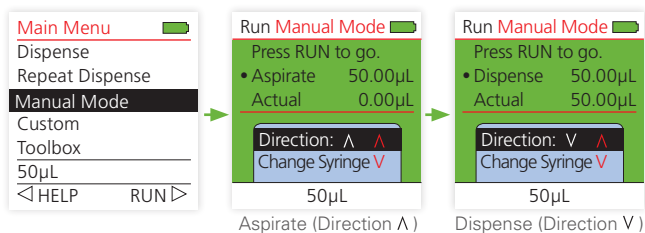

Figure 24. Manual Mode Syringe Plunger Direction.
**Direction:** Change the direction of the syringe plunger movement by selecting the Direction option in the Quick Access Menu and pressing OK. The notation on the display changes between  $\Lambda$  (Aspirate) and V (Dispense) (Figure 24).